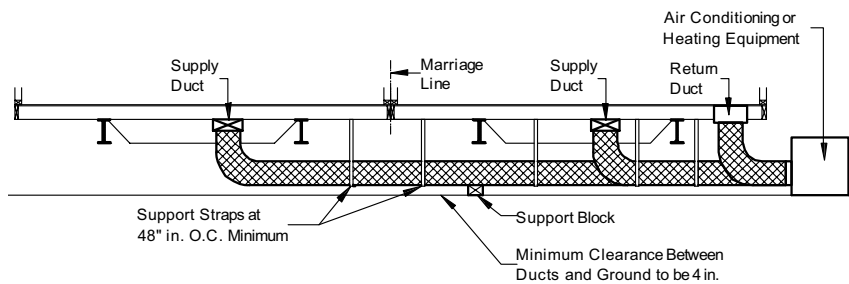

Figure 83. Ducts connecting exterior heating and/or cooling equipment to the home
2. **Install ducts.** Install the appropriate supply and return ducts (not provided) between the remote unit and the home (**Figure 83**), making connections according to the instructions for crossover ducts in **Crossover Connections** (p. 48).
Prepare the whole-house ventilation system according to the ventilation system manufacturer's instructions. Confirm that any fresh air intake ducts extend to the exterior and do not draw air from the crawlspace under the home. Do not allow any fresh air ventilation intake ducts to become kinked or restricted, forming a trap (**Figure 83**).